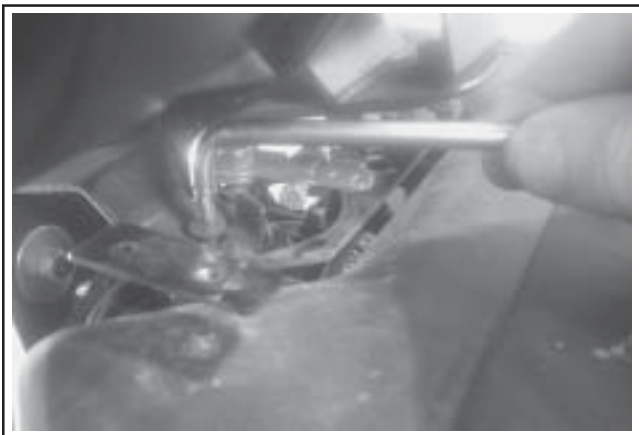

Figure 11-88. Installing Upper Mounting Screws.
4. Install and tighten the two mounting screws securing the air cleaner mounting bracket and the control panel to the blower housing. See Figure 11-88.